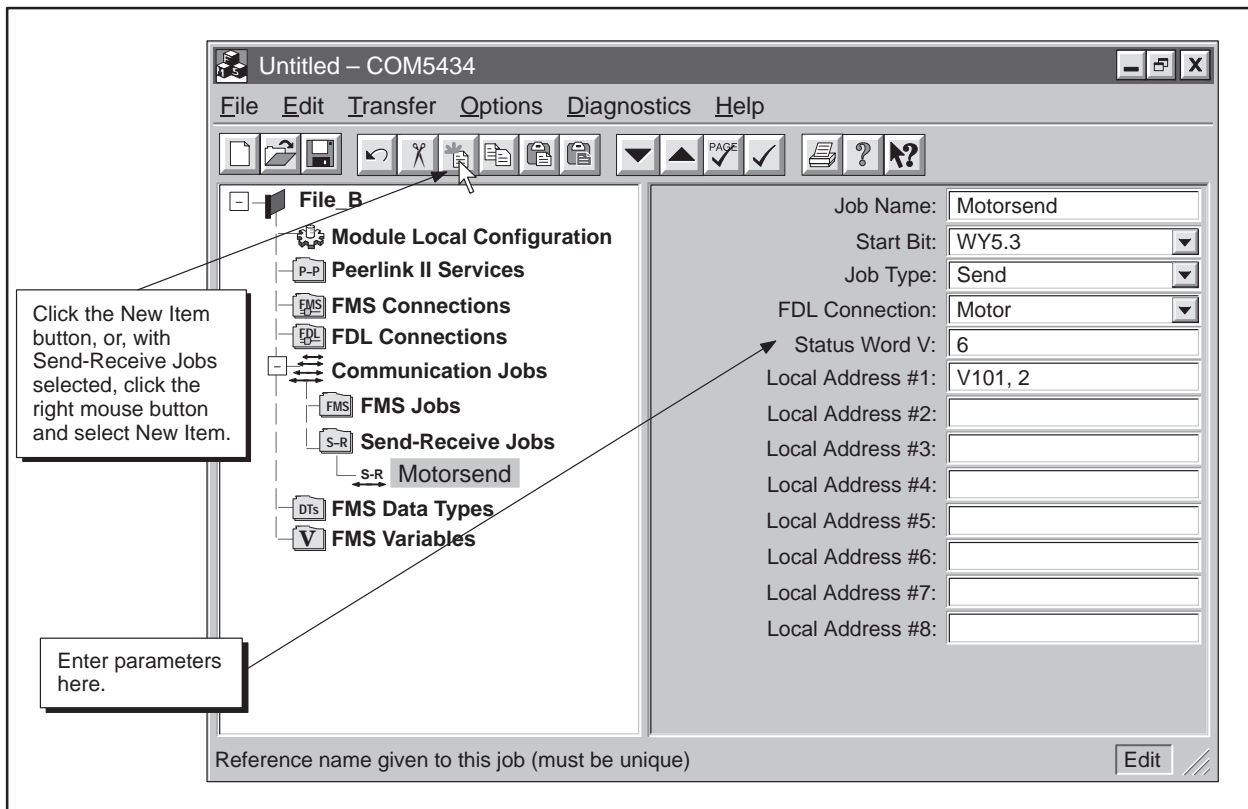

Figure 6-15 Send Job for Station 1
3. Complete the fields listed below (and shown in Figure 6-15) to configure the Send job for Station 1.